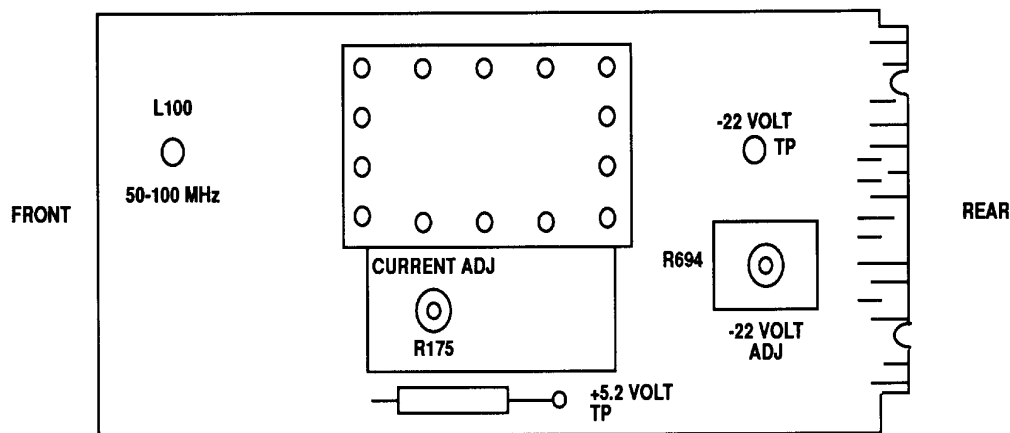

Figure 2. Main circuit board adjustment locations - right side.
- (7) Adjust **OUTPUT AMPLITUDE VOLTS P-P** control to **3.0**.
- (8) Repeat (3) through (6) above.
- (9) Adjust **OUTPUT AMPLITUDE VOLTS P-P** control to **0.5**.
- (10) Repeat (3) through (6) above.
b. Adjustments. Adjust CURRENT ADJ R175 (fig. 2) until third harmonic is at least 40 dB down from reference while assuring that second harmonic amplitude remains 35 dB down from reference. If second harmonic is equal to or greater than 35 dB down, do not adjust CURRENT ADJ R175 (fig. 2) to reduce second harmonic at expense of increasing the third (R).